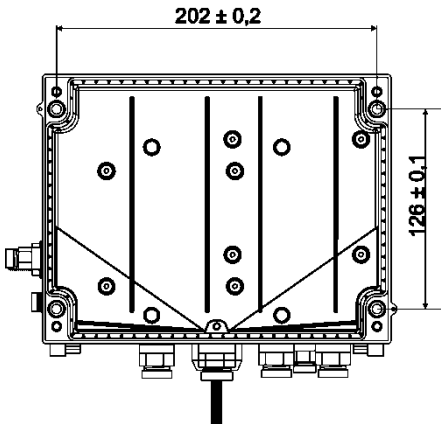

Fig. 10
1. Bore four holes in the positions marked on the wall (→ dimensions in Fig. 10).